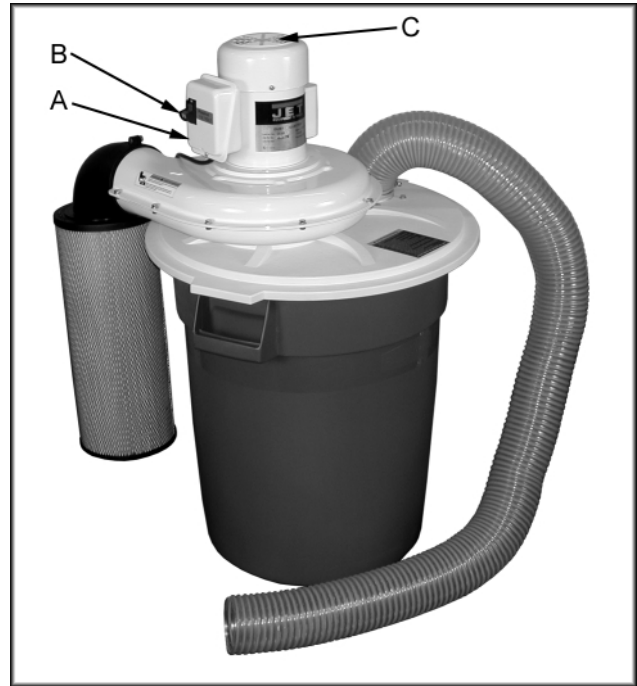

Fig. 4
If you want to run the DC-650TS on 230V refer to the wiring diagram found on the inside of the switch box cover (A, Fig. 4).
1. The dust collector can be turned on by flipping the switch (B, Fig. 4) into the on position.
Make frequent inspections of the motor cover (C, Fig. 4) and blow out (with low pressure air hose) or vacuum any accumulation of foreign material in order to maintain normal motor ventilation.